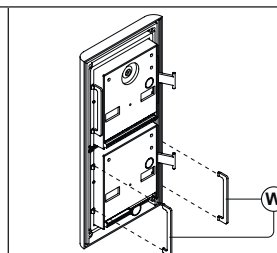

Fig. 11
Fit the anti-tampering locks (W) as shown in **Fig. 11**.